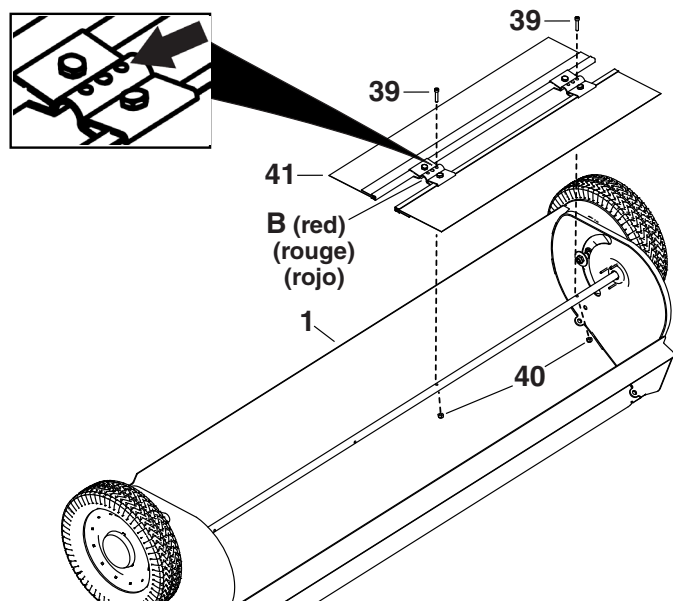

FIGURE 4
- Place the brush assembly (41) with the red brush retainer on the brush shaft so that the red brush retainer is positioned in the middle of the shaft.
- Install the two 10/32 x 1" sockethead screws (39) through the brush assembly (41) and brush shaft. Using the outer holes. See Figure 4.